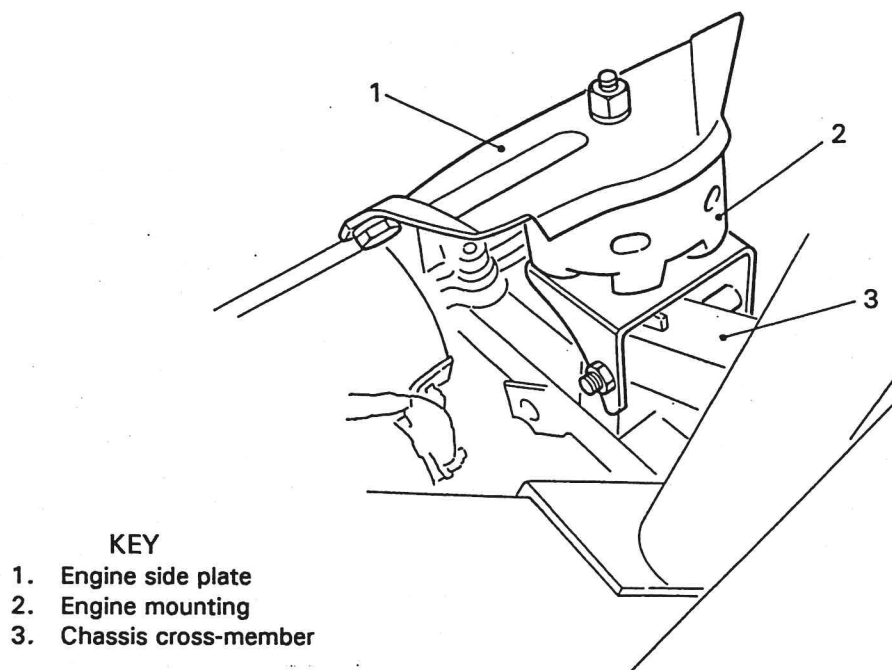

Fig. 2 Engine Mountings
2. Refer to Fig. 2. The new 'Lincoln' engine mounting brackets are fitted to the engine block when it is being installed and is suspended above the correct position (refer to Engine Main Assembly Module 13). Fit the new mountings to the engine using the original bolts removed and retained on stripping off the Mustang engine mounts which are discarded. Fitting of these bolts should be carried out in accordance with the Ford Engine Manual. Tighten to torque.